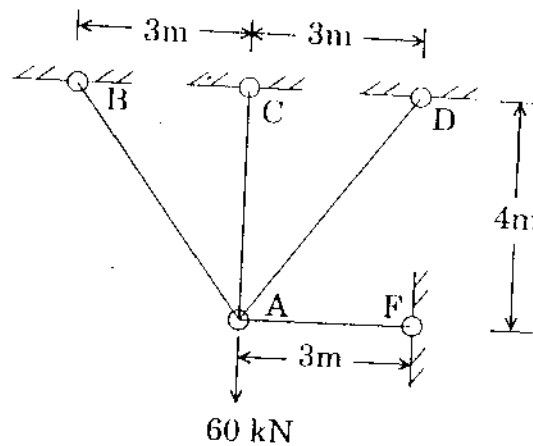

Fig. 2
3. (a) Analyse the pin jointed frame shown in Fig. 2 by stiffness method and determine the displacement of the joint A and forces in all the members. AE is same for all members.